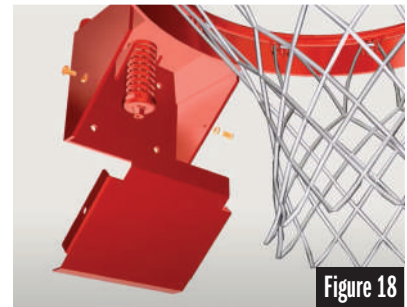

Figure 18
STEP 11: Remove the Rim Cover Plate from the underside of the Rim (Part I). See Figure 18.